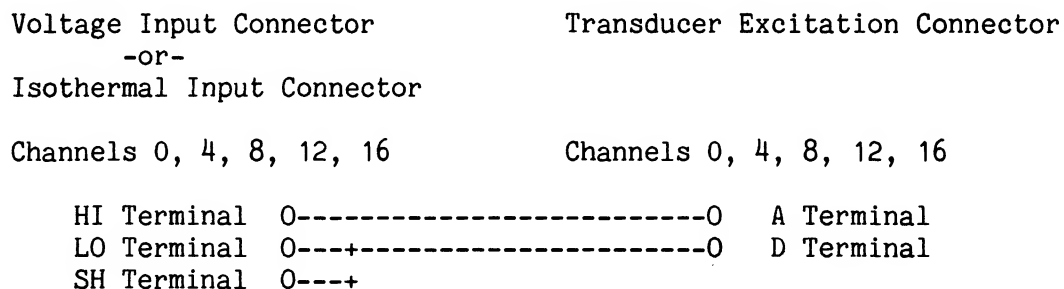

Figure 164-4. Voltage Excitation Test Wiring Diagram
2. Power down the Data Logger and remove the Transducer Excitation Connector. Rewire the connector as shown in Figure 164-4.